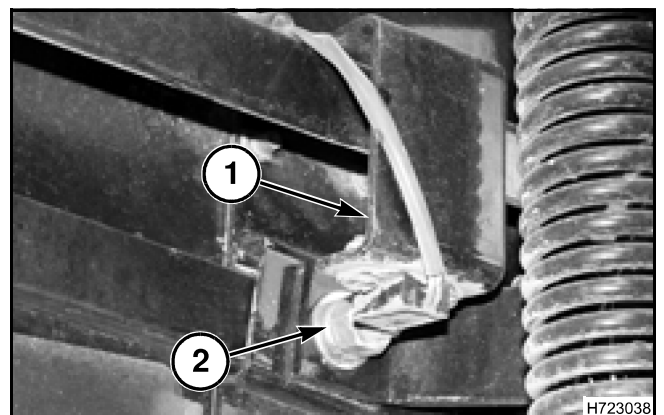

FIG. 595
FIG. 595: Disconnect the shoe magnetic pickup on the right-hand side of the machine. Remove the hardware securing the speed pickup bracket (1). Remove the bracket from the work area.